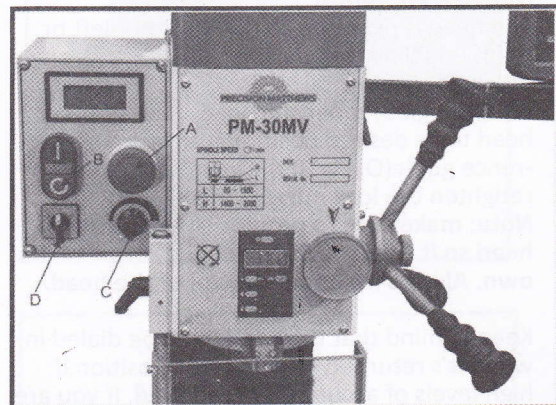

Fig.12
### Emergency Stop Switch(A, Fig. 12)
function of emergency stopping and the protective function to the machine and electric components. (B, Fig. 12) Green push button marked "I" to start the motor. Red push button marked "O" to switch the motor off.
**Speed Control Knob(C, Fig. 12)** turn it clockwise to increase the spindle speed, reverse to decrease. The knob should be turned to zero each time the machine is stopped. Always start the machine with the knob set at zero.
**F/R switch(D, Fig. 12)** changing the position of switch will reverse the direction of the motor. F-forward direction, R-reverse direction.